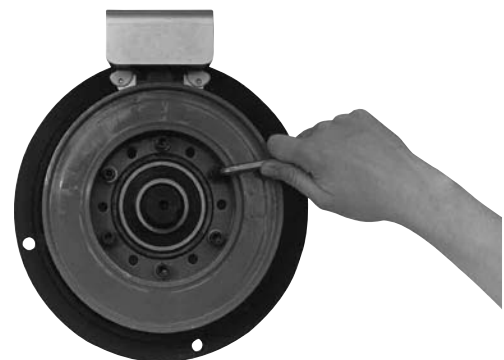

Figure 3
3. Once the mounting surface has been prepared, the magnet is bolted in place with cap screws and lockwashers. (Figure 3)